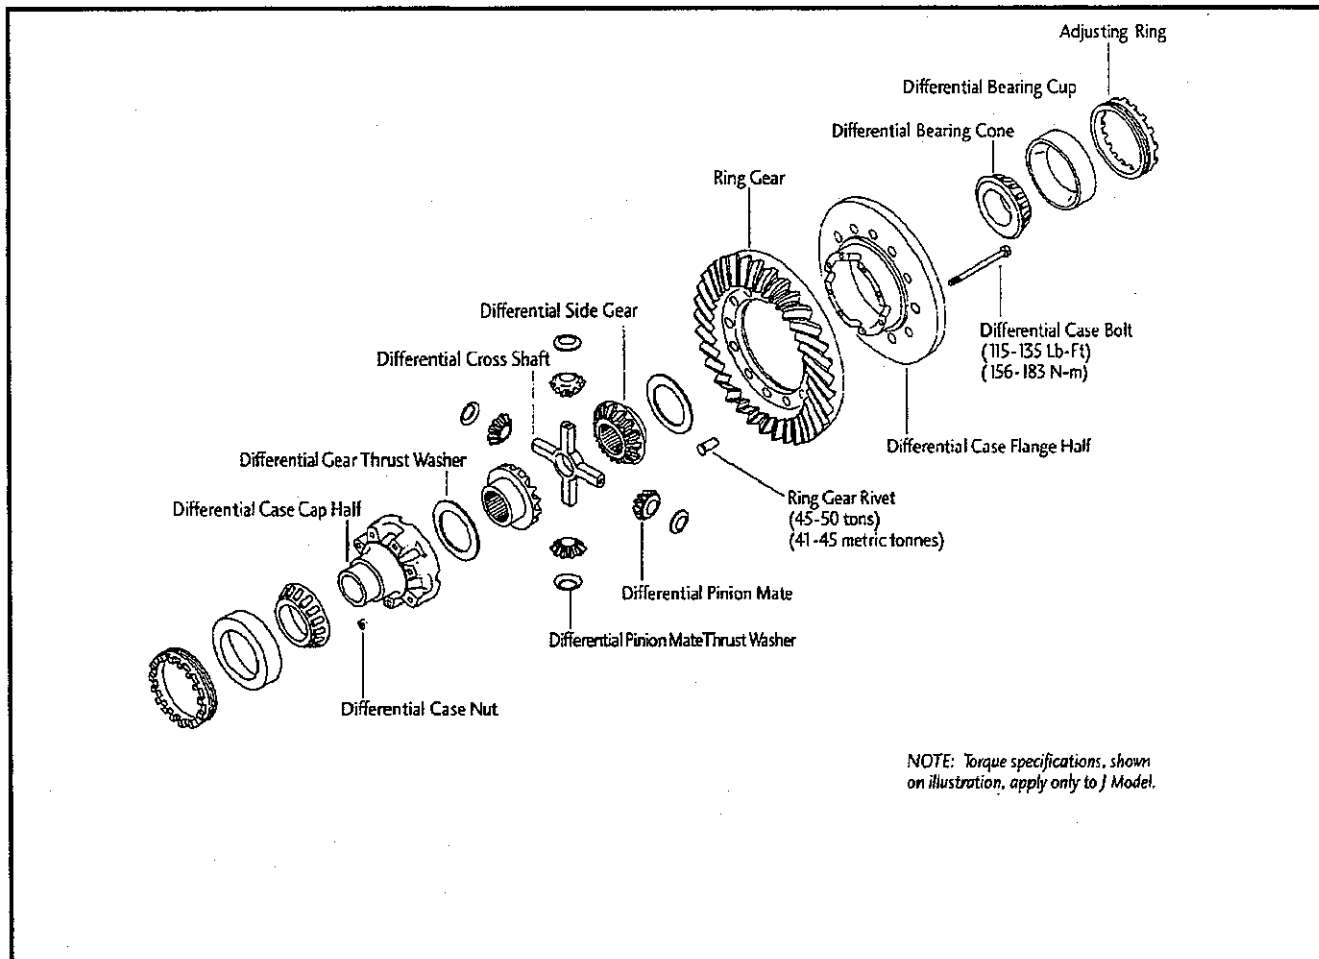

Figure 26—Differential Assembly
20. If ring gear was removed from the differential case, re-install ring gear. (See Figure 26—Differential Assembly.)